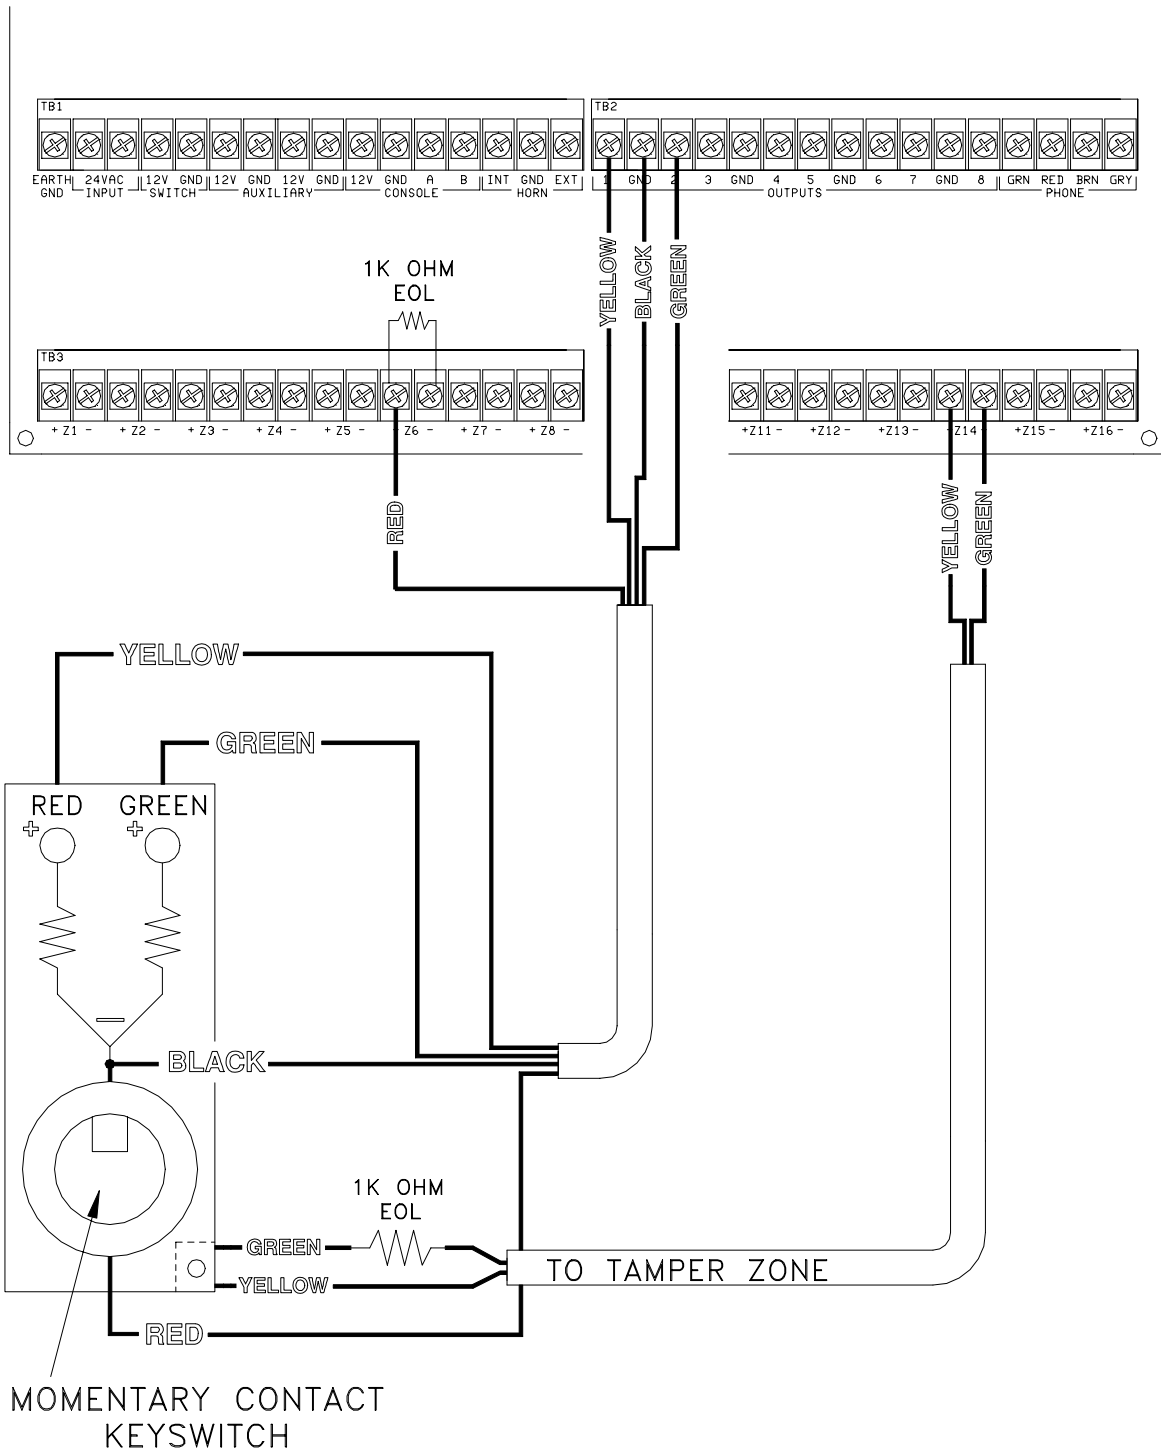

Figure 8 - Remote Keyswitch Connections
4. Refer to **FIGURE 8 (REMOTE KEYSWITCH CONNECTION)** for this configuration.